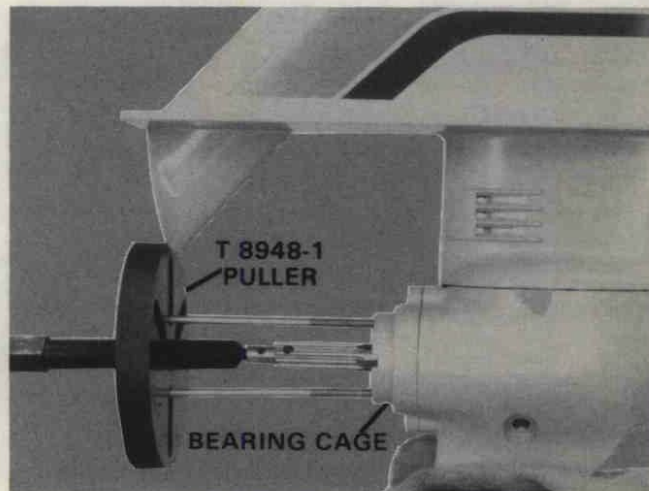

Figure 25. Removing Bearing Cage.
- A. Remove two (2) fillhead screws securing bearing cage assembly to lower gear housing.
- B. Install puller (Special Tool No. T 8948-1). Remove bearing cage assembly. Figure 25.